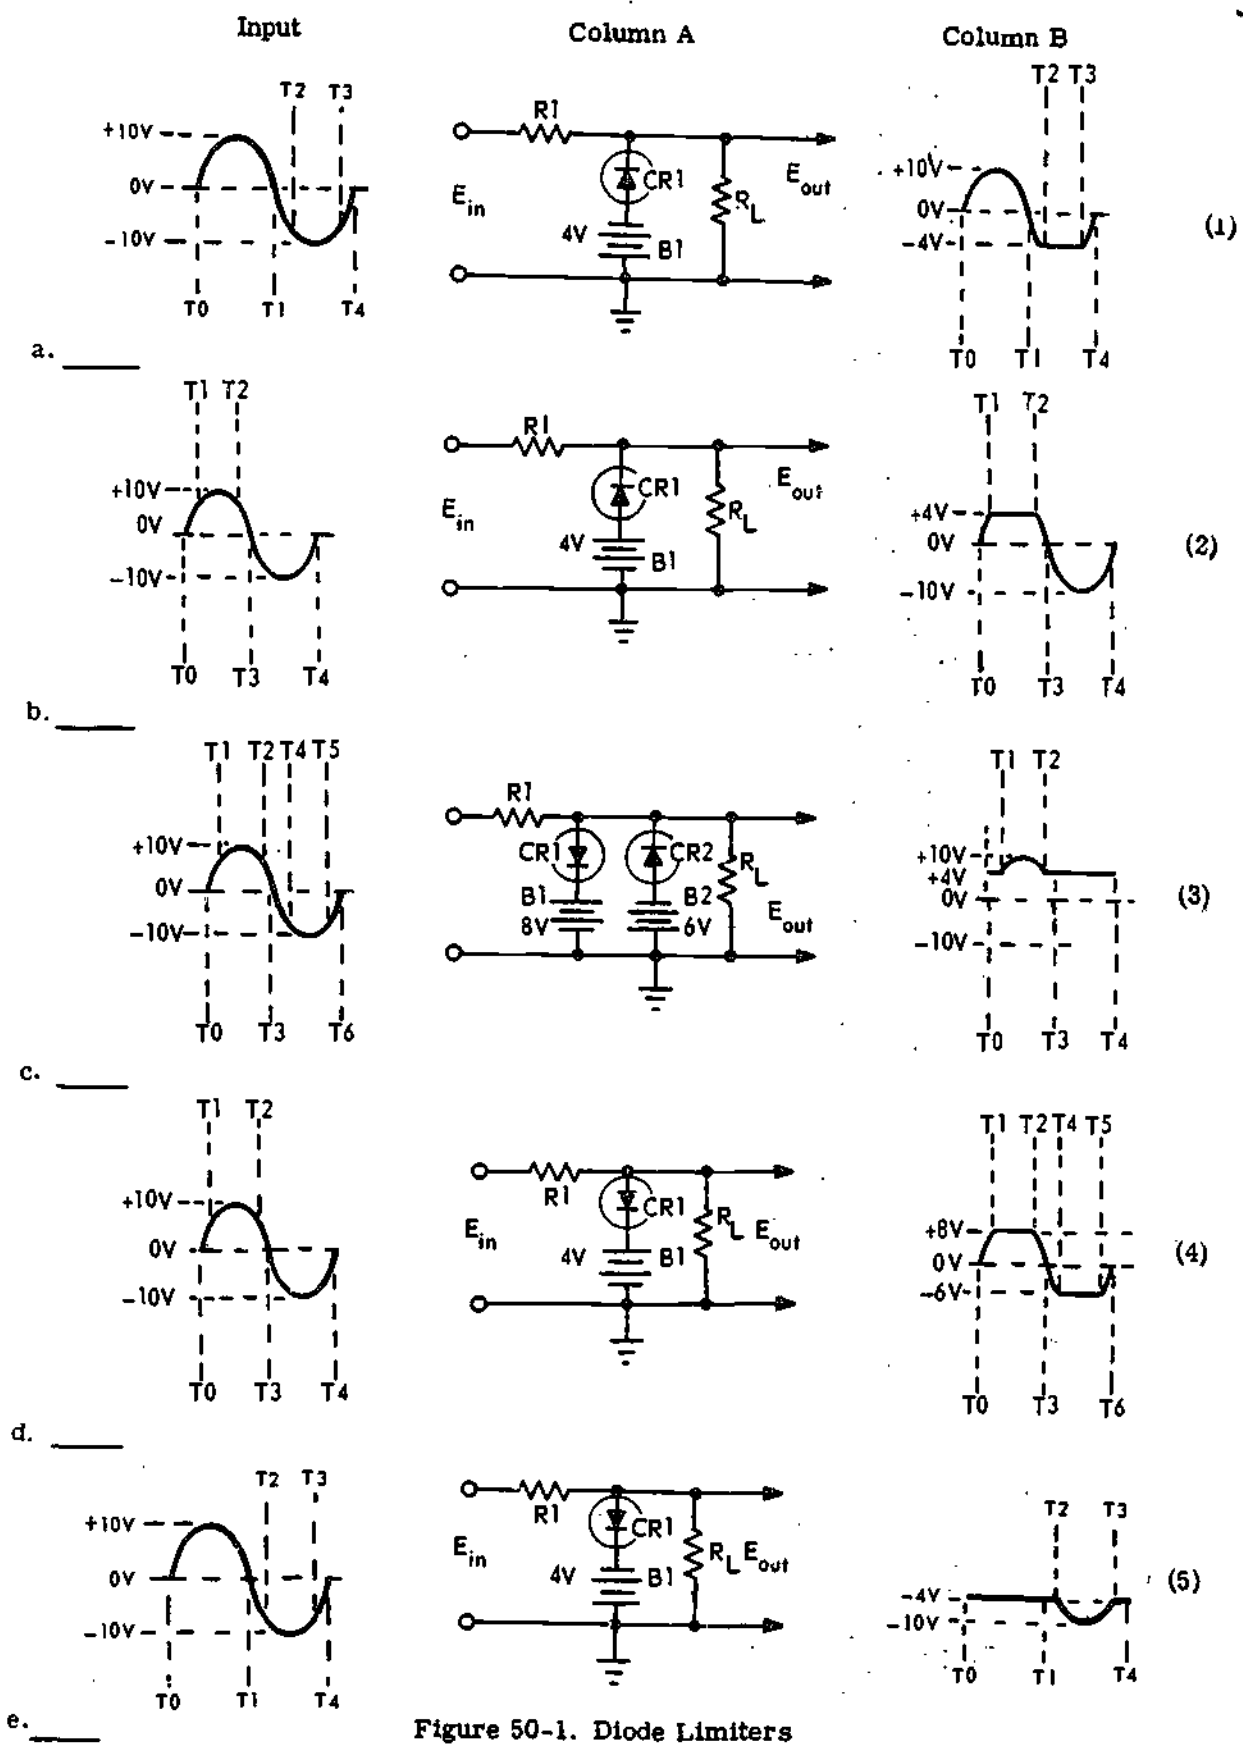

Figure 50-1. Diode Limiters
1. Refer to figure 50-1. Given circuit diagrams of solid state limiters with bias and input signals, match the waveforms in column B with the circuits in column A.
2. Study figure 50-1 and match the circuit diagrams in column A with the following list of limiter types.
3. Refer to figure 50-1, schematic diagram c. Increasing the battery voltage of B2 to 8 volts would cause _____.
4. In reference to figure 50-1, circuit b, increasing the battery voltage to 6 volts would cause limiting to (increase) (decrease).